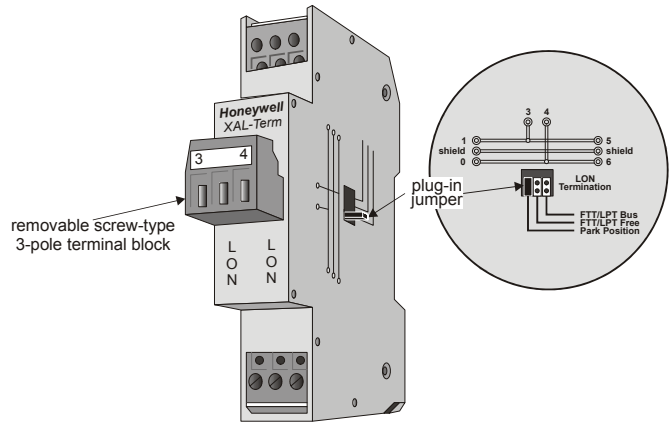

Fig. 72. XAL-Term
- XAL-Term LONWORKS connection and termination module (see Fig. 72), which can be mounted on DIN rails and in fuse boxes.